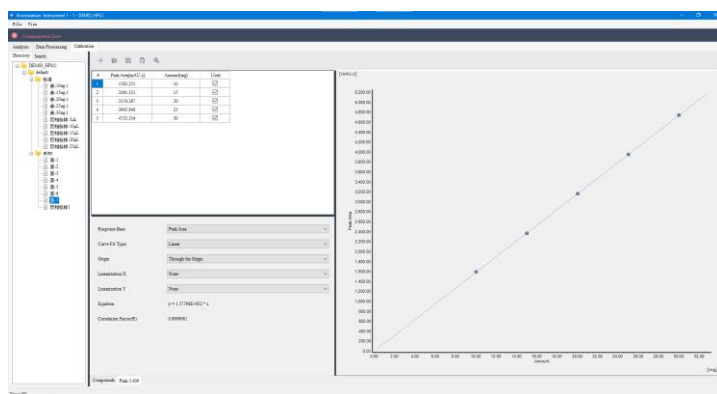

Figure 7-5 Calibration curve-single substance
- 7) After the calibration point is set, you can view the calibration curve in the tab of the corresponding compound, and set the calibration method of the calibration curve, as shown in Figure 7-5. If the “used” column of a calibration point in the upper left information table is selected as blank, the calibration point will be displayed as a circle in the calibration table, and the calibration point data will not be included in the calculation of the curve.